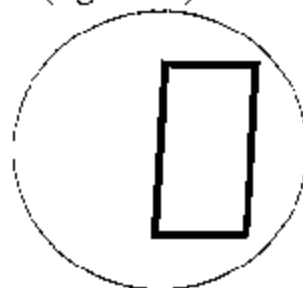

figure 24
- Remove the gas and wait for the unit to return to normal operation. The display will indicate a few percent LEL and then drop to "0" (figure 24).